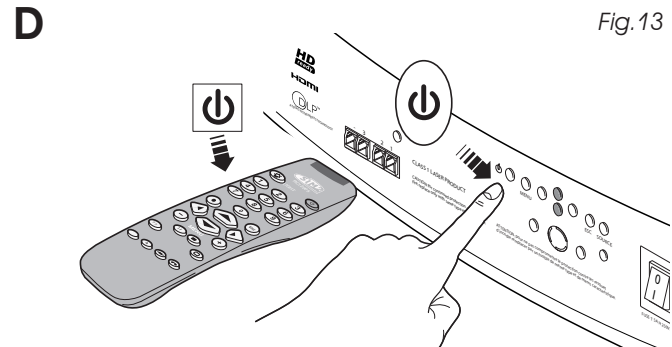

Fig.14
4) Switching on the system (Fig.14):
Switching on the system (*Fig. 14*):